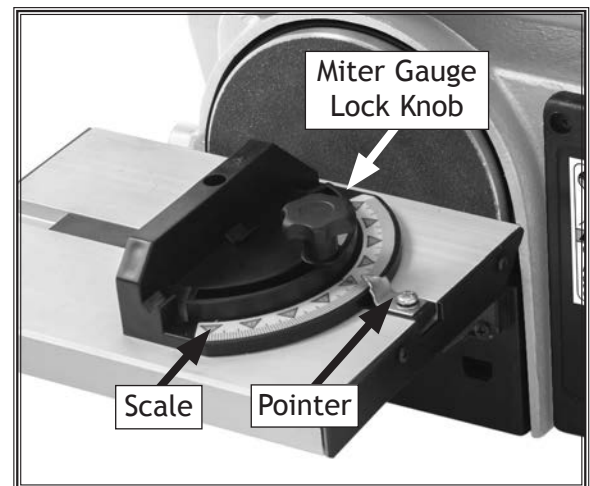

Figure 15. Components for setting miter gauge angle.
1. Place miter gauge in work table slot, and loosen lock knob shown in Figure 15.